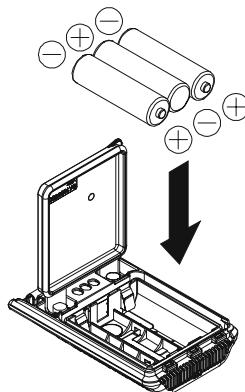

Figure 2
- If you do not need the Belt Clip, install the supplied Plastic Cap to the Battery Pack (**Figure 2**). If you install the belt clip later, push the Plastic Cap out with a small tool or screwdriver.
2. Referring to Figure 2, slide the batteries into the **FBA-39** as shown in the illustration, with the Negative [-] side of the batteries touching the spring connections inside the **FBA-39**.